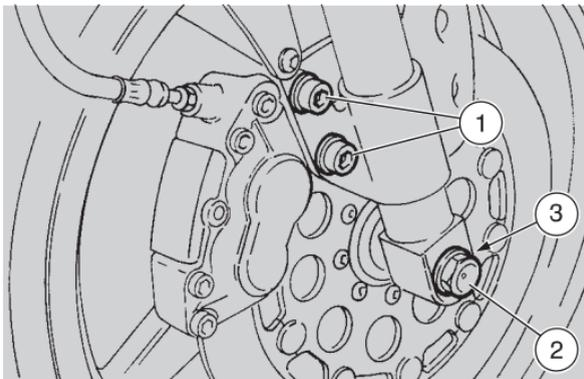
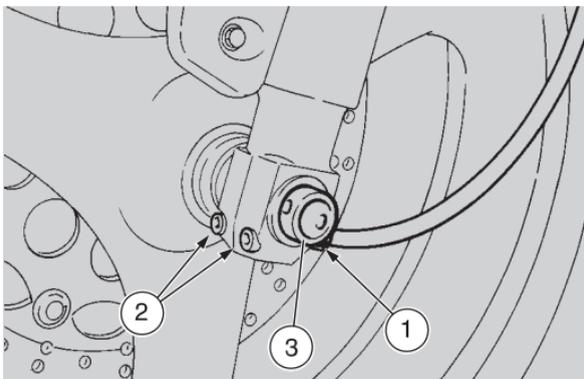

Fig. 34
Fig. 35
- remove the two fastening screws of the brake calliper (1-Fig. 34);
- disconnect the odometer cable (1-Fig. 35);
- loosen the wheel pin screw (2-Fig. 34);
- loosen the four screws of the fork clamps (3-Fig. 34, 2-Fig. 35);
- remove the pin screw (2-Fig. 34);
- unscrew and extract the pin (3-Fig. 35);
- insert the pin (3-Fig. 35);
- insert and turn the screw (2-Fig. 34) until the pin sets in the seat;
- position the odometer cable correctly (1-Fig. 35);
- tighten the four screws of the fork clamps (2-Fig. 34) (3-Fig. 35);
- tighten the screw (2-Fig. 34).
- mount the brake calliper, tightening the screws (1-Fig. 34).